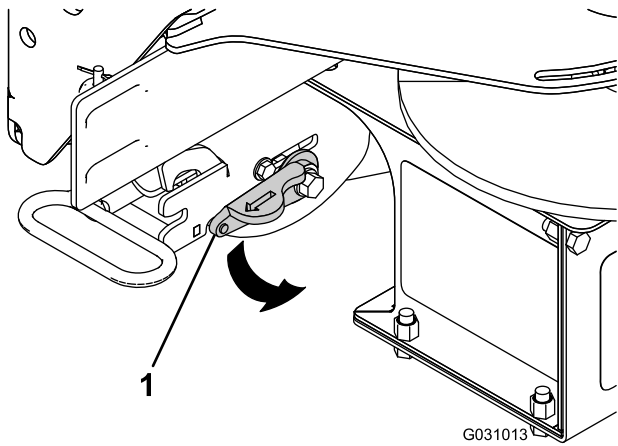

Figure 21
2. Rotate the locking lever on the RT3 attachment to the LOCK position (Figure 21).